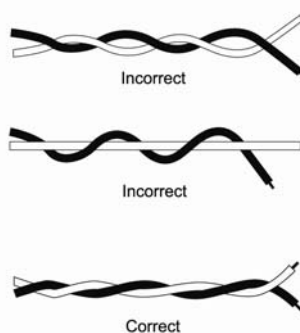

FIGURE 6.2
- 2.2. The loop wire must be held securely in the bottom of the slot by means of a plastic foam type material called backer rod. The recommended method of securing the loop wire in the slot is to use a series of one (1) inch long pieces of backer rod spaced approximately one (1) foot apart along the entire length of the saw cut. Make certain to press the backer rod tightly into the slot. Use a wooden stick or other blunt instrument to avoid potential damage to the loop wire. If the backer rod is not pressed tightly into the slot, the loop wires will be loose in the slot. Loose wires can cause false calls due to vibration or sudden movement.
3. In most cases, the saw cut will end at the edge of the pavement or at a stub out for a conduit. Where the wires leave the saw cut they must be twisted together with a minimum of six (6) twists per foot. (see figure 6.2)